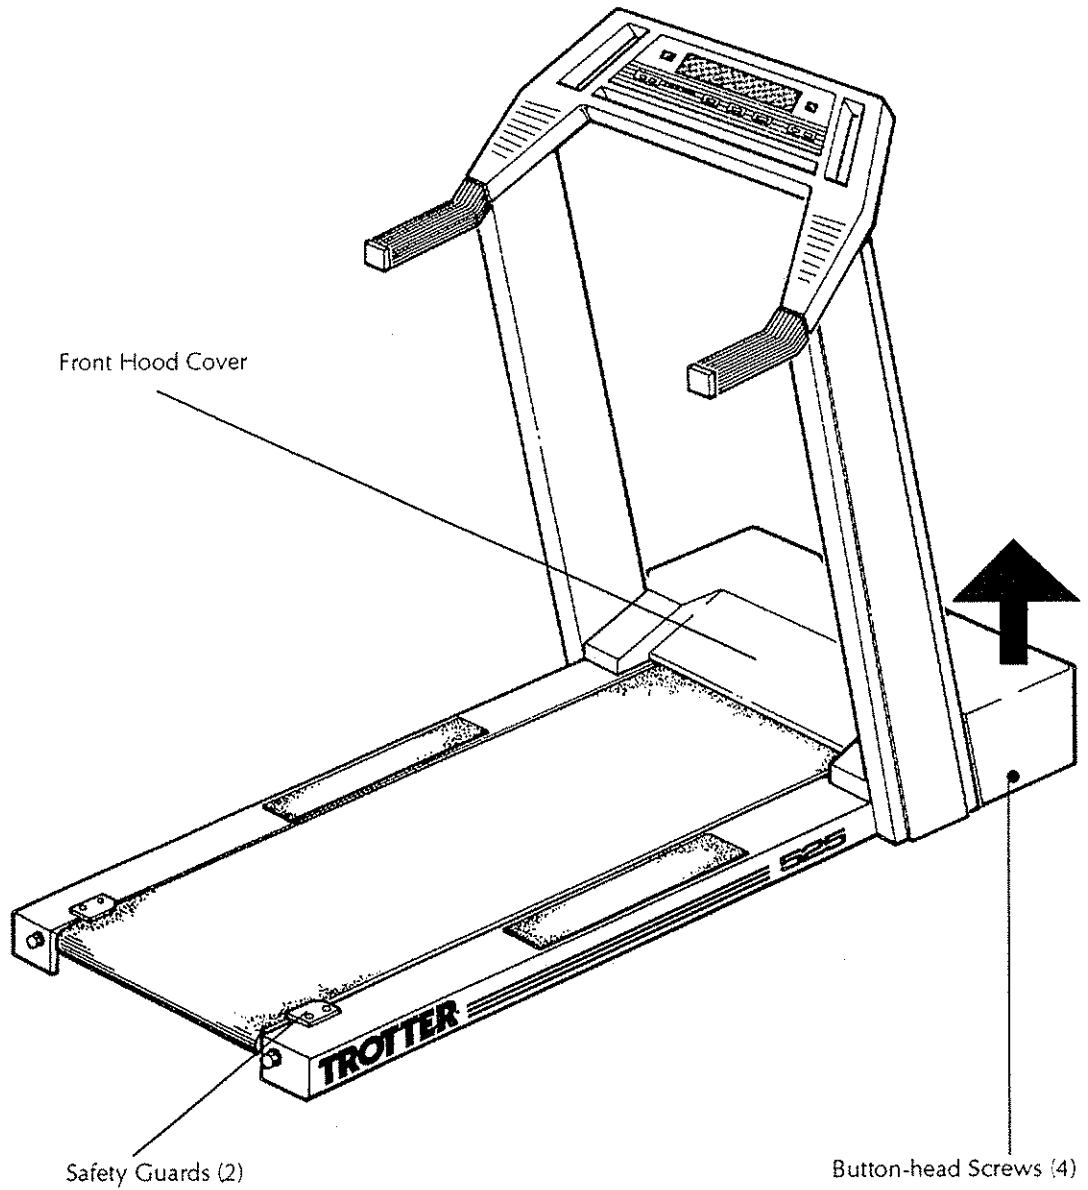

Figure 5-6: Removing/Replacing the Front Hood Cover
1. Remove the front hood cover. Refer to Figure 5-6 and complete the following:
2. Remove the four Button-head screws securing the front hood cover to the treadmill's frame. See Figure 5-6.